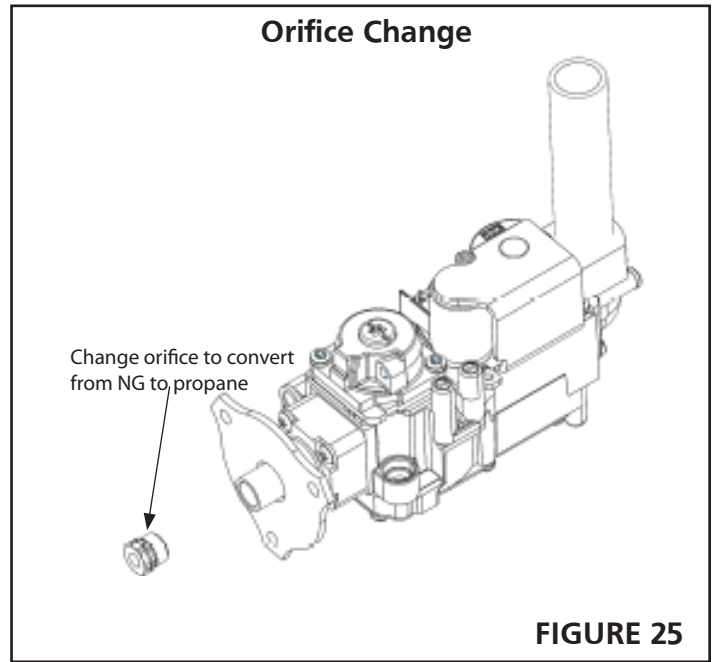

FIGURE 25
4. Once the valve assembly has been removed, replace the NG nozzle with the propane nozzle using a "13 key". See Figures 25 and 24. The nozzle is supplied by Heat Star. Verify the orifice drill size in Table 1.